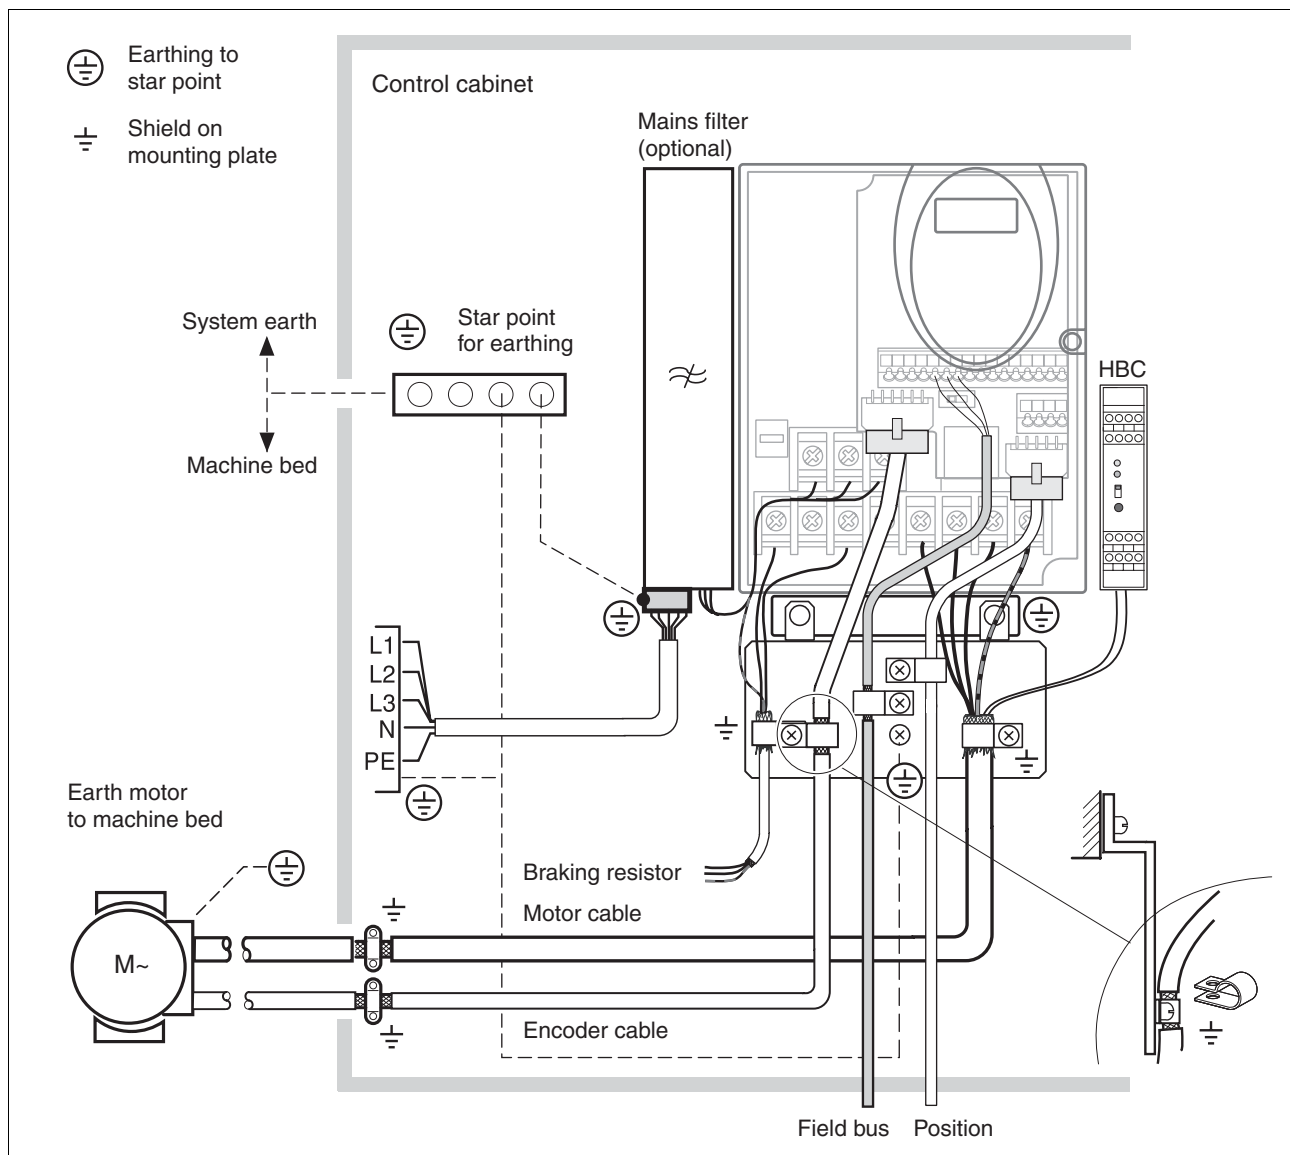

Figure 6.1 EMC measures
- ▶ Attach the supplied EMC plate at the bottom of the device, see also Figure 6.1, or use alternative attaching elements (comb bars, shield clamps, busbars).